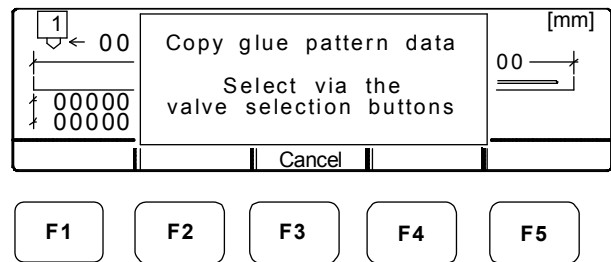

Figure 9-12. Glue-Pattern-Edit Menu with Message
2. Press F2 (Copy). The “Copy glue pattern data. Select via the valve selection buttons” message displays (Figure 9-12) and the LEDs on the valve-selection buttons begin to flash.